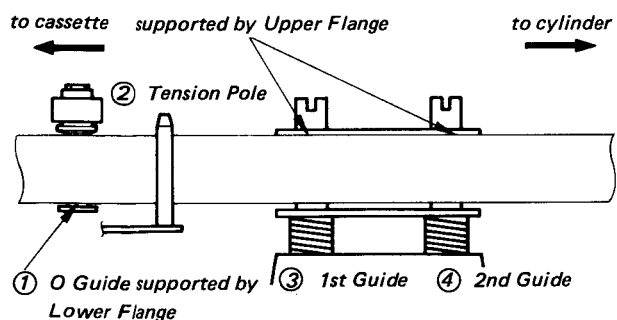
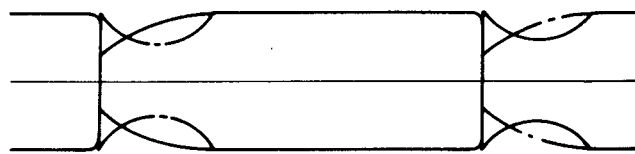

Fig. 5-115 Entrance Side Tape Path Adjustment
Fig. 5-122 Entrance Side Envelope Wave-form
1. Misalignment of tape path → Proceed Entrance guide adjustment. (refer to Fig. 5-115)
check the tape path → Proceed Entrance guide adjustment. (refer to Fig. 5-115)
6. Replacement of Full width erase head → Proceed Entrance guide adjustment. (refer to Fig. 5-115)
5-a. Entrance side adjustment (Fig. 5-115)
C. Adjust the height of 1st ③ and 2nd ④ guides to maintain that the clearance between the guide upper plates and the tape upper portion is 0.5 mm approximately (see Fig. 5-115) and confirm that there is no cross portion in the envelope (see Fig. 5-122).